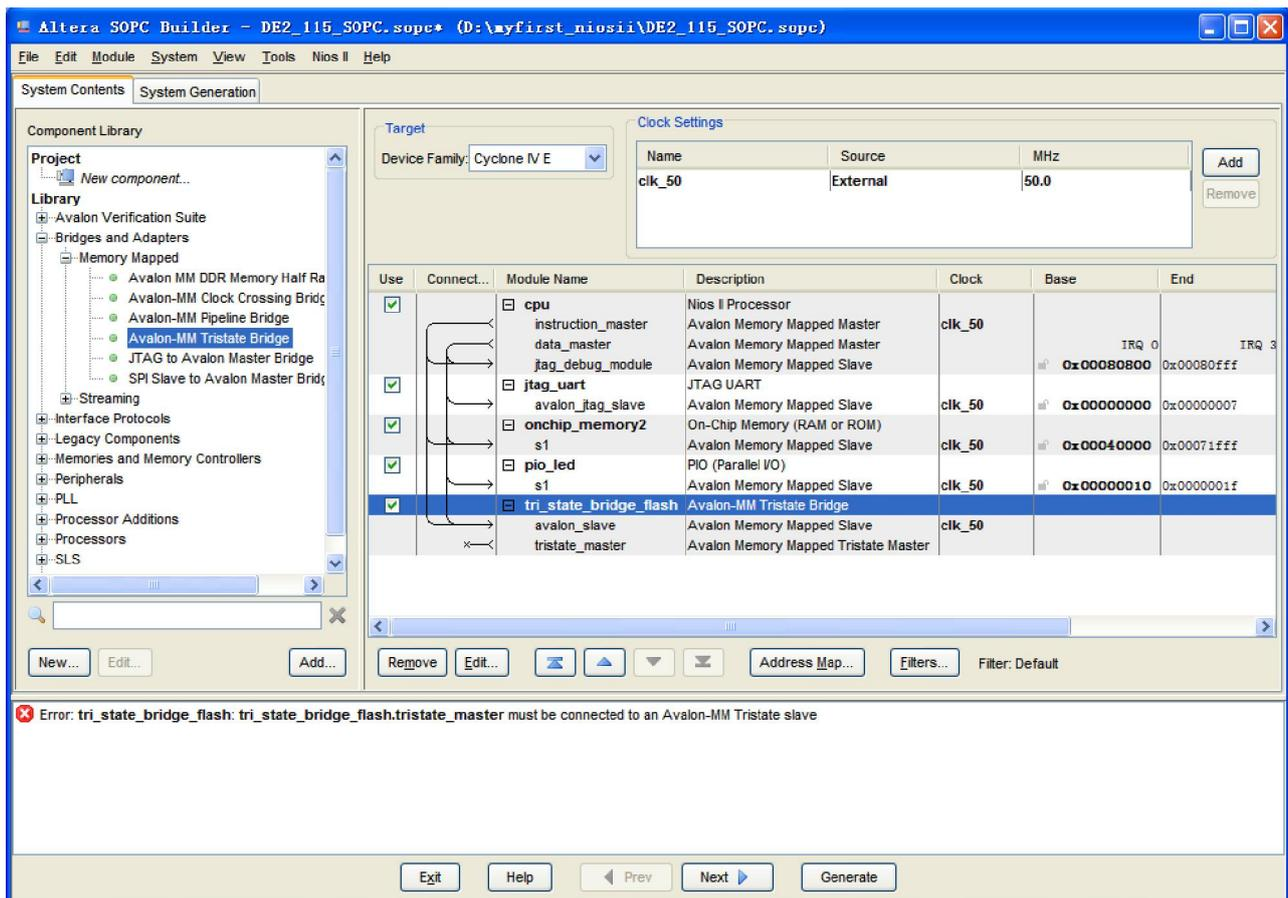

Figure 3-4 Rename Avalon-MM Tristate Bridge
3. Rename `tri_state_bridge_0` to `tri_state_bridge_flash` as shown in Figure 3-4.